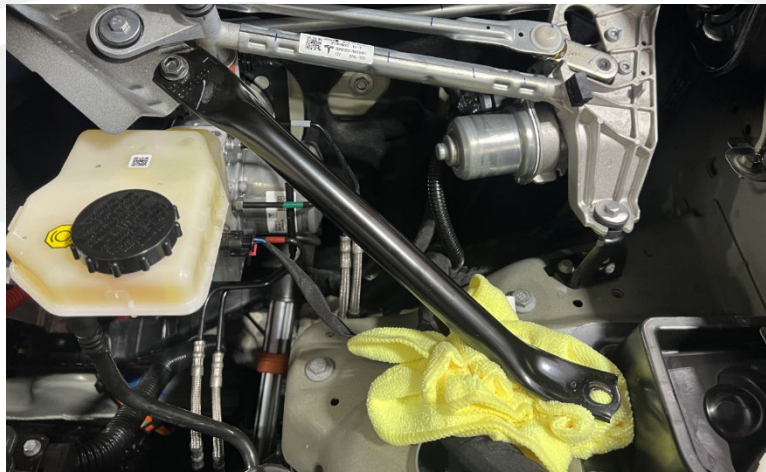

Figure 1
2. Remove the bolts (x2, 13 mm) from the LH and RH wiper bracket pencil brace lower attachment points and swing the arms away from the bolted flanges, then wedge a shop towel between each of the braces and mounts to isolate the lower attachment points (Figure 1).